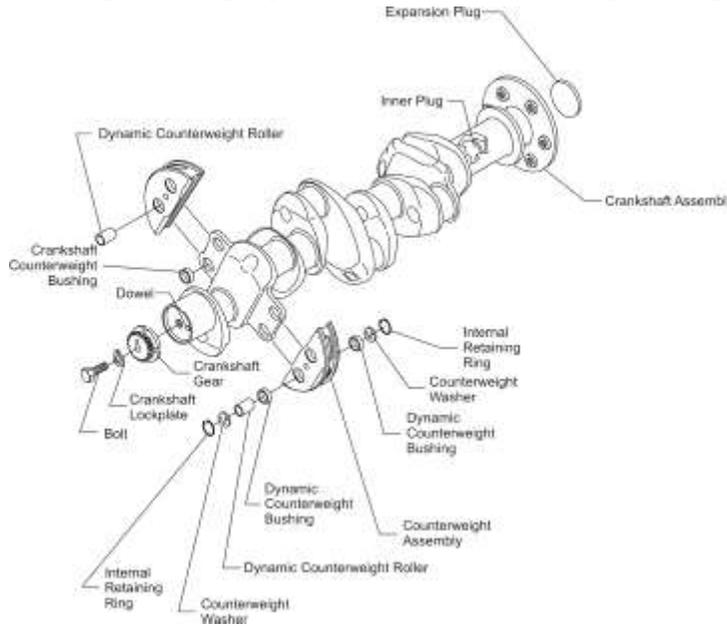

Figure 21
- C. If installed, remove the expansion plug (Figure 21) from the crankshaft:
- (1) Use a suitable 1/2 in. to 3/4 in. (13 to 19 mm) diameter punch to press the center of the expansion plug to a concave shape in the crankshaft.
- (2) Use a sharp tool to make a 1/8 in. (3.175 mm) to 3/16 in. (4.763 mm) hole in the center of the plug.
- (3) Use a hook or bent rod to pull out the plug.
- (4) Remove any little pieces of plug remnants. Discard the expansion plug.